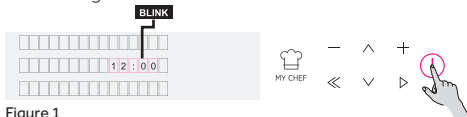

Figure 1
• At first launch you need to follow an installation process to be able to use the oven. Press ON/OFF to go ahead. (Figure 1)